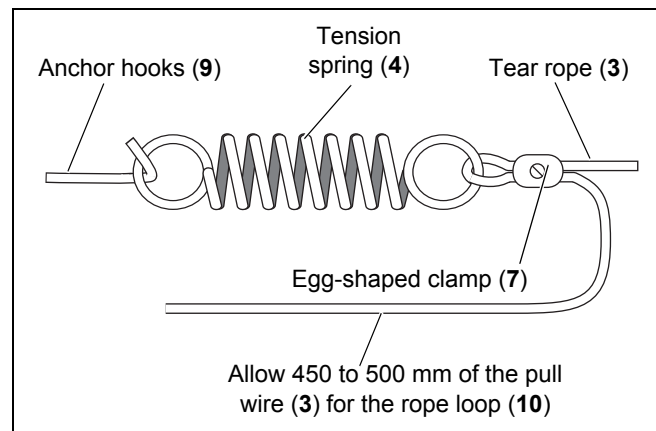

Fig. 5-4: Attaching the tear rope onto the tension spring
4. Hook the tensions springs (4) onto the anchor hooks (9) (*see fig. 5-4*).
- Thread the end of the tear rope (3) through the eye of the tension spring (4). Pull the tear rope (3) about 450 to 500 mm through the eye, so that it can form a rope loop (10) at that end *to complete* the mounting procedure (see fig. 5-4).